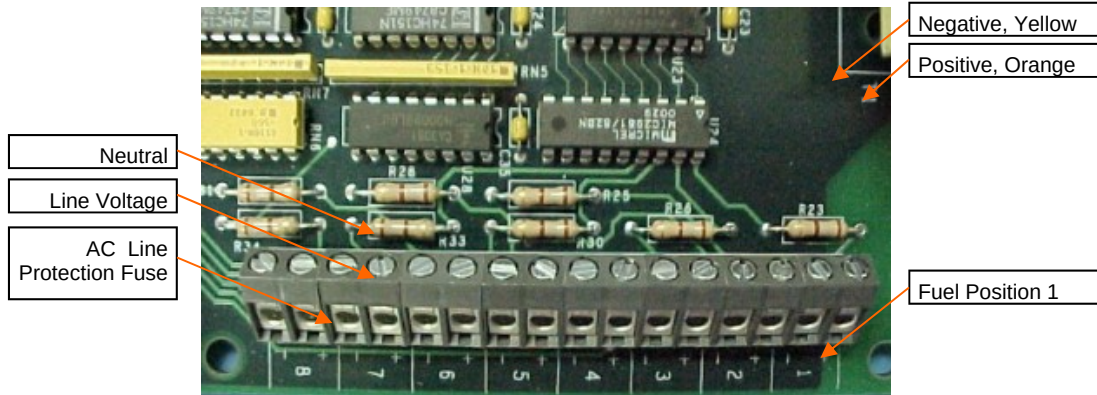

Figure 2
3. Connect data wires to terminal strips TS1 and TS2. Each fuel position is labeled on the circuit board. See Figure 2.